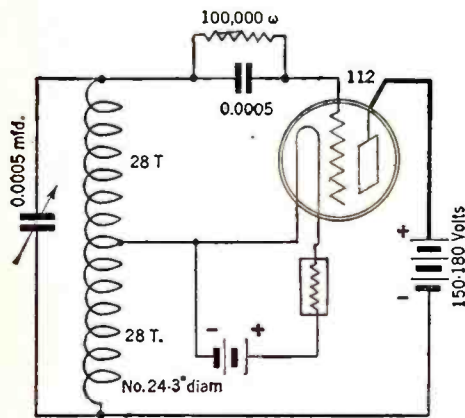

FIG. 1
1. A simple radio-frequency generator consisting of a vacuum tube connected to a coil and condenser as in Fig. 1.